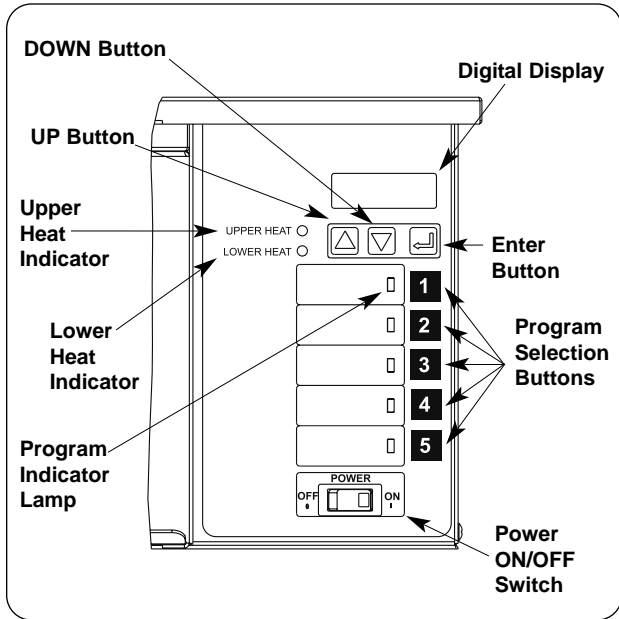

Figure 10. Control Panel
2. Turn the Power Switch to the “ON” position. (See Figure 10). The unit will make an audible beep, automatically go into “Preheat” and the display will indicate  $\text{PRE}$ . If the unit displays “OFF”, press one of the five product selection keys to put the unit into “Preheat” mode.